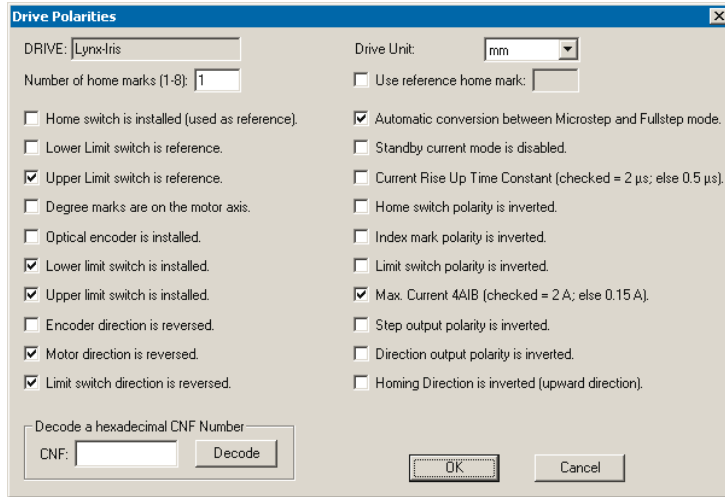

Figure 7.9 Switches
- Click on **Change Values (D)** to get access to advanced parameters.
- Click on **Switches (E)** and check the parameters as shown in Figure 7.9.